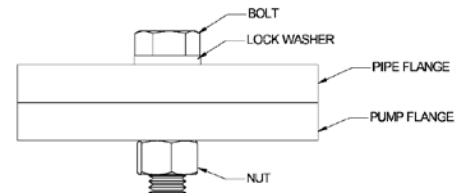

Fig 10
9. When connecting piping to the pump suction and discharge flanges, if lock washers are used, install under the head of the bolt. See figure 10.